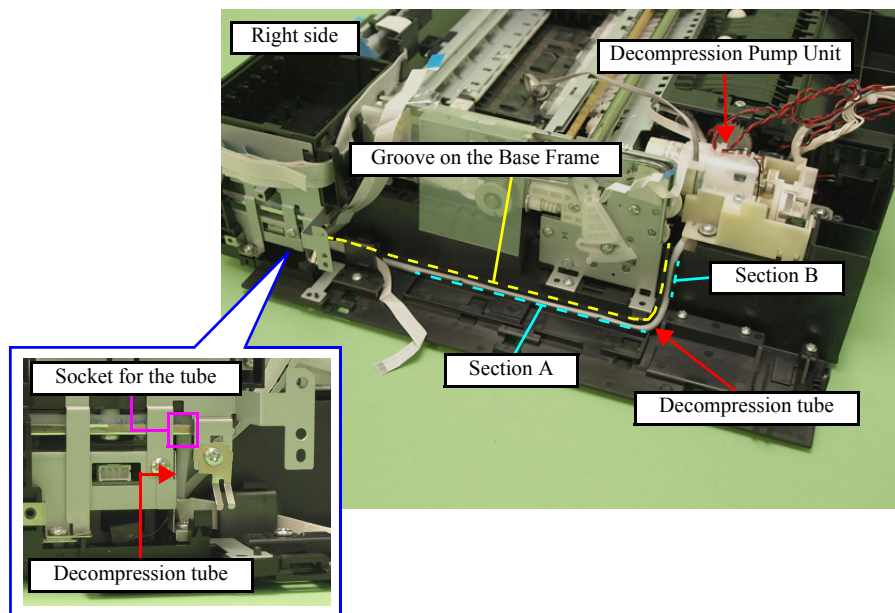
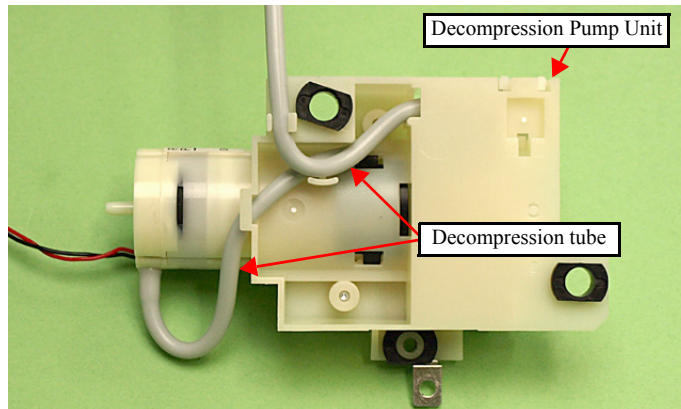

Figure 4-73. Removing the Decompression Pump Unit
Figure 4-75. Installing the Decompression Pump Unit
(See Fig. 4-73.)
- When routing the decompression tube, confirm no clipped part or fold on the tube. (See Fig. 4-73, Fig. 4-75.)
- Put the decompression tube through the groove on the Base Frame (section A and B), and route it behind the FFC. (See Fig. 4-73.)
- Make sure to insert the decompression tube into the socket on the Cartridge Box Unit to the full to its base. (See Fig. 4-73.)
3. Disconnect the decompression tube from the socket on the Cartridge Box Unit. (See Fig. 4-73.)